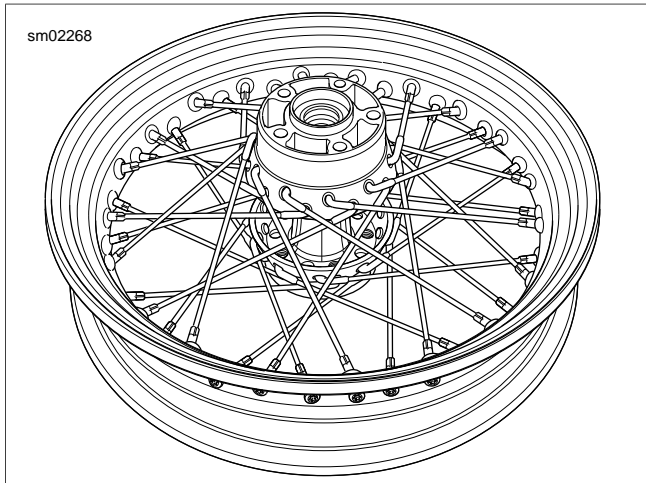

Figure 2-29. Wheel Completely Laced
10. See Figure 2-29. Install remaining nine upper row spokes.